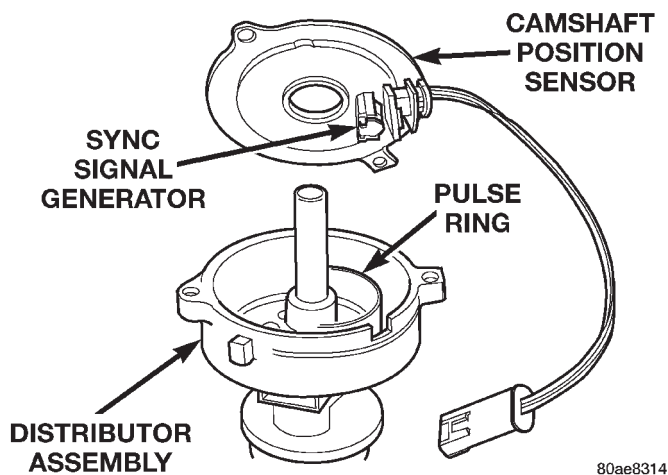

Fig. 32 Camshaft Position Sensor—Typical (5.2L/5.9L Shown)
The camshaft position sensor is located in the distributor on all 4.0L 6-cylinder and 5.2L/5.9L V-8 engines (Fig. 32).
- (1) 5.2L/5.9L Engines: Remove air cleaner tube at throttle body.
- (2) Disconnect negative cable from battery.
- (3) Remove distributor cap from distributor (two screws).
- (4) Disconnect camshaft position sensor wiring harness from main engine wiring harness.
- (5) Remove distributor rotor from distributor shaft.
- (6) Lift the camshaft position sensor assembly from the distributor housing (Fig. 32).